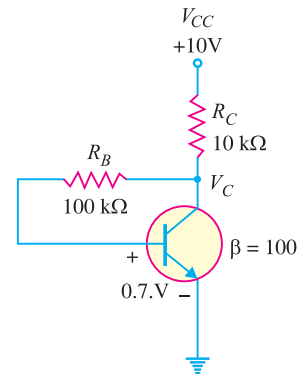

Fig. 9.23
**Example 9.18.** Find the d.c. bias values for the collector-feedback biasing circuit shown in Fig. 9.23. How does the circuit maintain a stable Q point against temperature variations?
**Stability of Q-point.** We know that  $\beta$  varies directly with temperature and  $V_{BE}$  varies inversely with temperature. As the temperature goes up,  $\beta$  goes up and  $V_{BE}$  goes down. The increase in  $\beta$  increases  $I_C (= \beta I_B)$ . The decrease in  $V_{BE}$  increases  $I_B$  which in turn increases  $I_C$ . As  $I_C$  tries to increase, the voltage drop across  $R_C (= I_C R_C)$  also tries to increase. This tends to reduce collector voltage  $V_C$  (See Fig. 9.23) and, therefore, the voltage across  $R_B$ . The reduced voltage across  $R_B$  reduces  $I_B$  and offsets the attempted increase in  $I_C$  and attempted decrease in  $V_C$ . The result is that the collector-feedback circuit maintains a stable Q-point. The reverse action occurs when the temperature decreases.